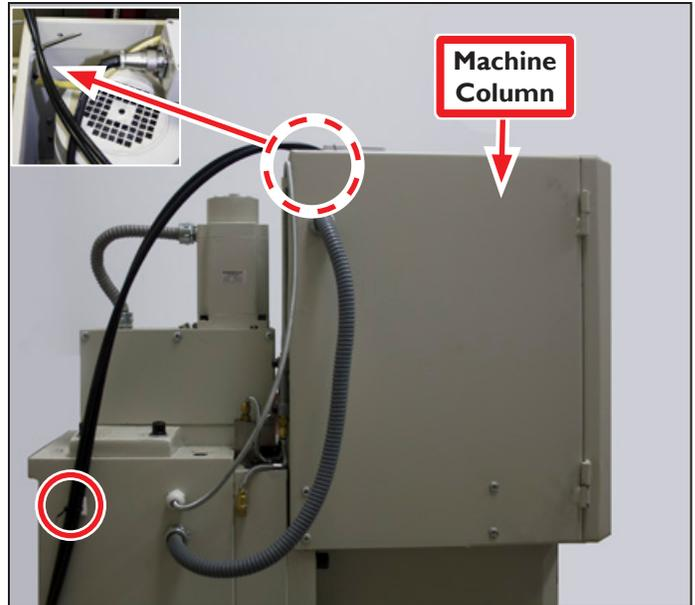

Figure 21
6. Raise Machine Column to maximum height and then secure water lines with two Cable Tie Holders and Cable Ties (included) in locations shown in **Figure 21**.